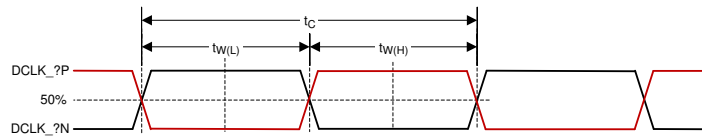

Figure 6-12. HSSI CLK Characteristics
- (6) See Figure 6-12 for rise time and fall time for HSSI.
- (7) See Figure 6-12 for pulse duration high and low for HSSI.